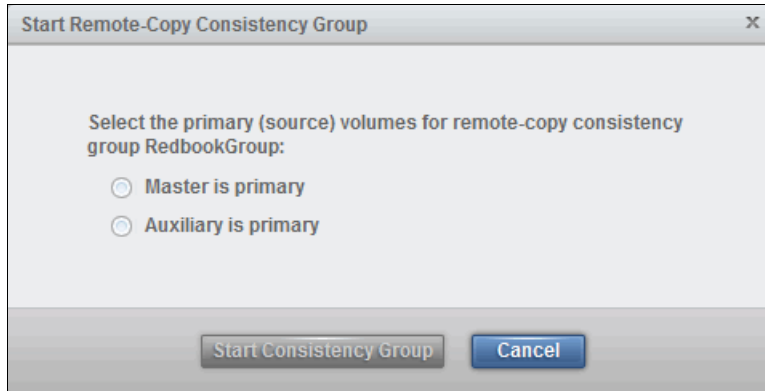

Figure 10-139 Confirming replication direction
2. You are prompted to select whether the Master or Auxiliary volumes are to act as the primary volumes before the consistency group is started as shown in Figure 10-139 on page 571. The consistency group then starts copying data from the primary volumes to the secondary volumes. If the consistency group was stopped without access and is in the **Consistent Stopped** state, you are not prompted to confirm the direction in which to start the group. It starts by default using the original primary volumes from when it was stopped.